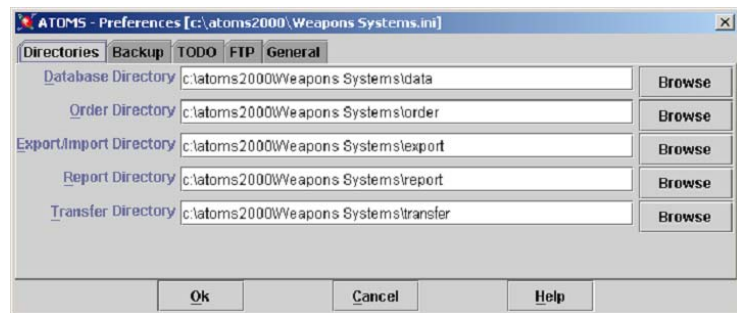

Figure 4-34. New TODO Preferences
- 4) Select **Save**. The program “blinks,” and then a Preferences window appears (Figure 4-34).